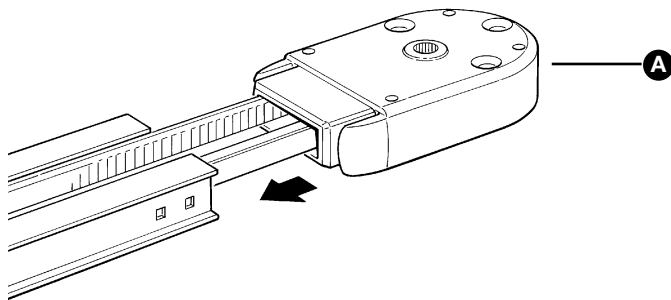

Figure 14
**2** First of all, assemble the head of the guide **[A]** as shown in Figure 14. Attaching this part requires a certain amount of force.